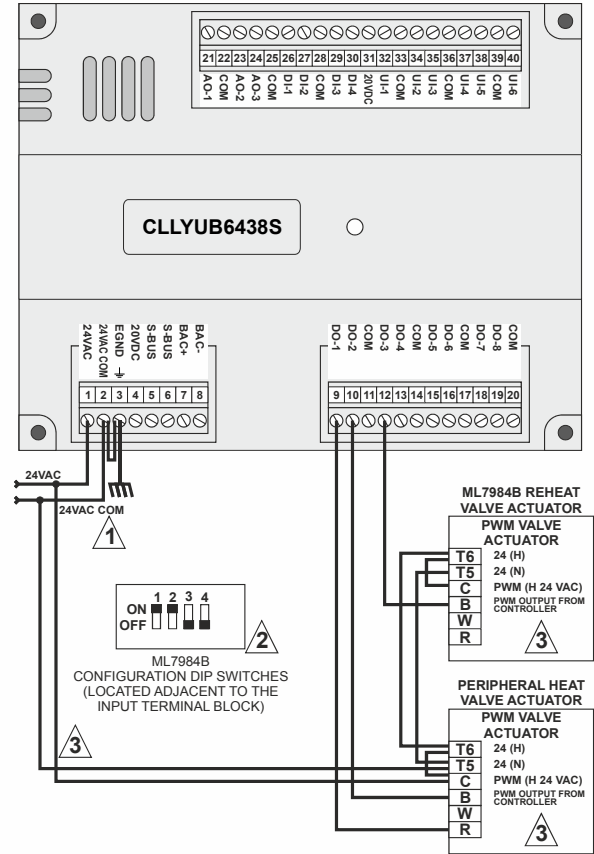

Fig. 15. Controller wiring diagram (CLLYUB6438S shown) for typical PWM heat and PWM peripheral heat valve actuator
- Typical controller wiring for PWM reheat and PWM peripheral heat valve actuator (see Fig. 15).
Ensure that the Configuration DIP Switch is set as shown in Fig. 15. Switches 1 through 3 set the timing of the ML7984B valve actuator to match the controller outputs (min. 0.1 sec; max. 25.6 sec). Switch 4 determines the action of the actuator (OFF = direct acting, ON = reverse acting).